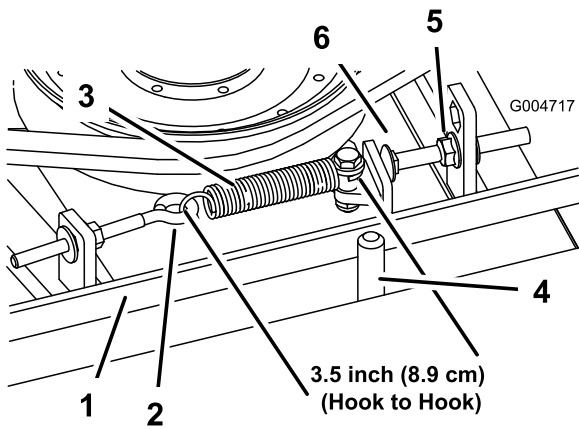

Figure 69
When properly tensioned, the inside measurement of the extension spring (hook to hook) should be approximately 8.3 to 9.5 cm (3-1/4 to 3-3/4 inches). Once the correct spring tension is attained, adjust the stop bolt (carriage bolt) until there is approximately 2 to 5 mm (0.065 to 0.185 inch) clearance between the head of the bolt and the idler arm (Figure 69).
Note: Ensure that the belt is positioned on the spring side of the belt guide (Figure 69).
2. Loosen the eye bolt allowing the removal of the extension spring (Figure 69).
3. Loosen the flange nut securing the stop bolt to the mounting tab and move the idler pulley away from the belt to release the belt tension (Figure 69).
9. Connect the extension spring (Figure 69) to the eye bolt and tension the belt as follows: